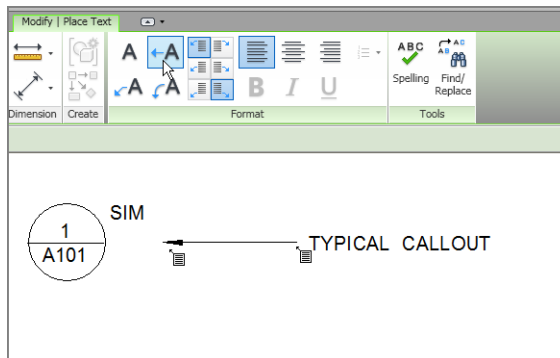

FIGURE 11.49: Adding the text to the legend
2. On the Modify | Place Text tab, click the One Segment button, as shown in Figure 11.49.
3. Pick two points for the leader, and type **TYPICAL CALLOUT** (see Figure 11.49).